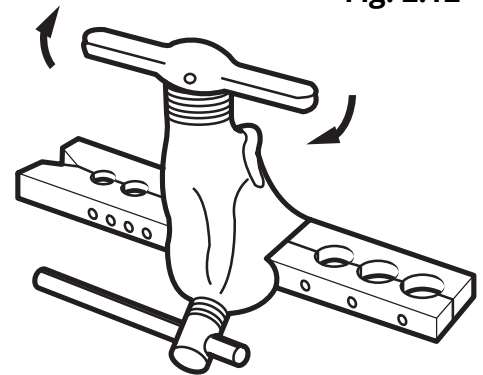

Fig. 2.13
6. Clamp flare form on the end of the pipe. The end of the pipe should extend $\sim 1/16''$ (1.6mm) beyond the edge of the flare form as shown in **Fig. 2.13**